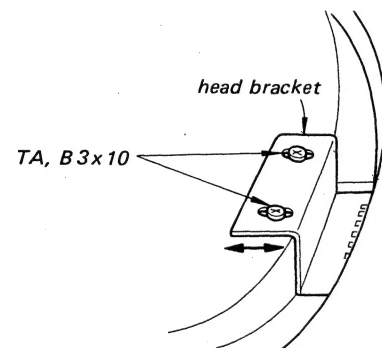
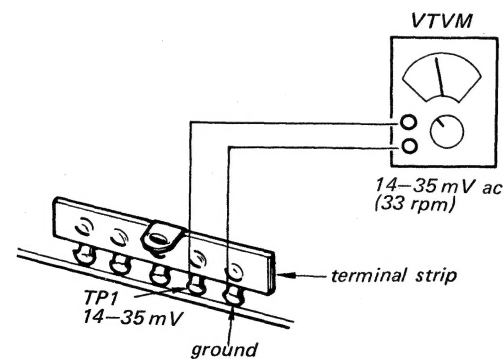

Fig. 3-2
Fig. 3-3
- 1. Adjust the position of the head bracket by loosening B 3×10 screws (See Fig. 3-2) so that the VTVM reads 14–35 mV (33 rpm) as shown in Fig. 3-3.